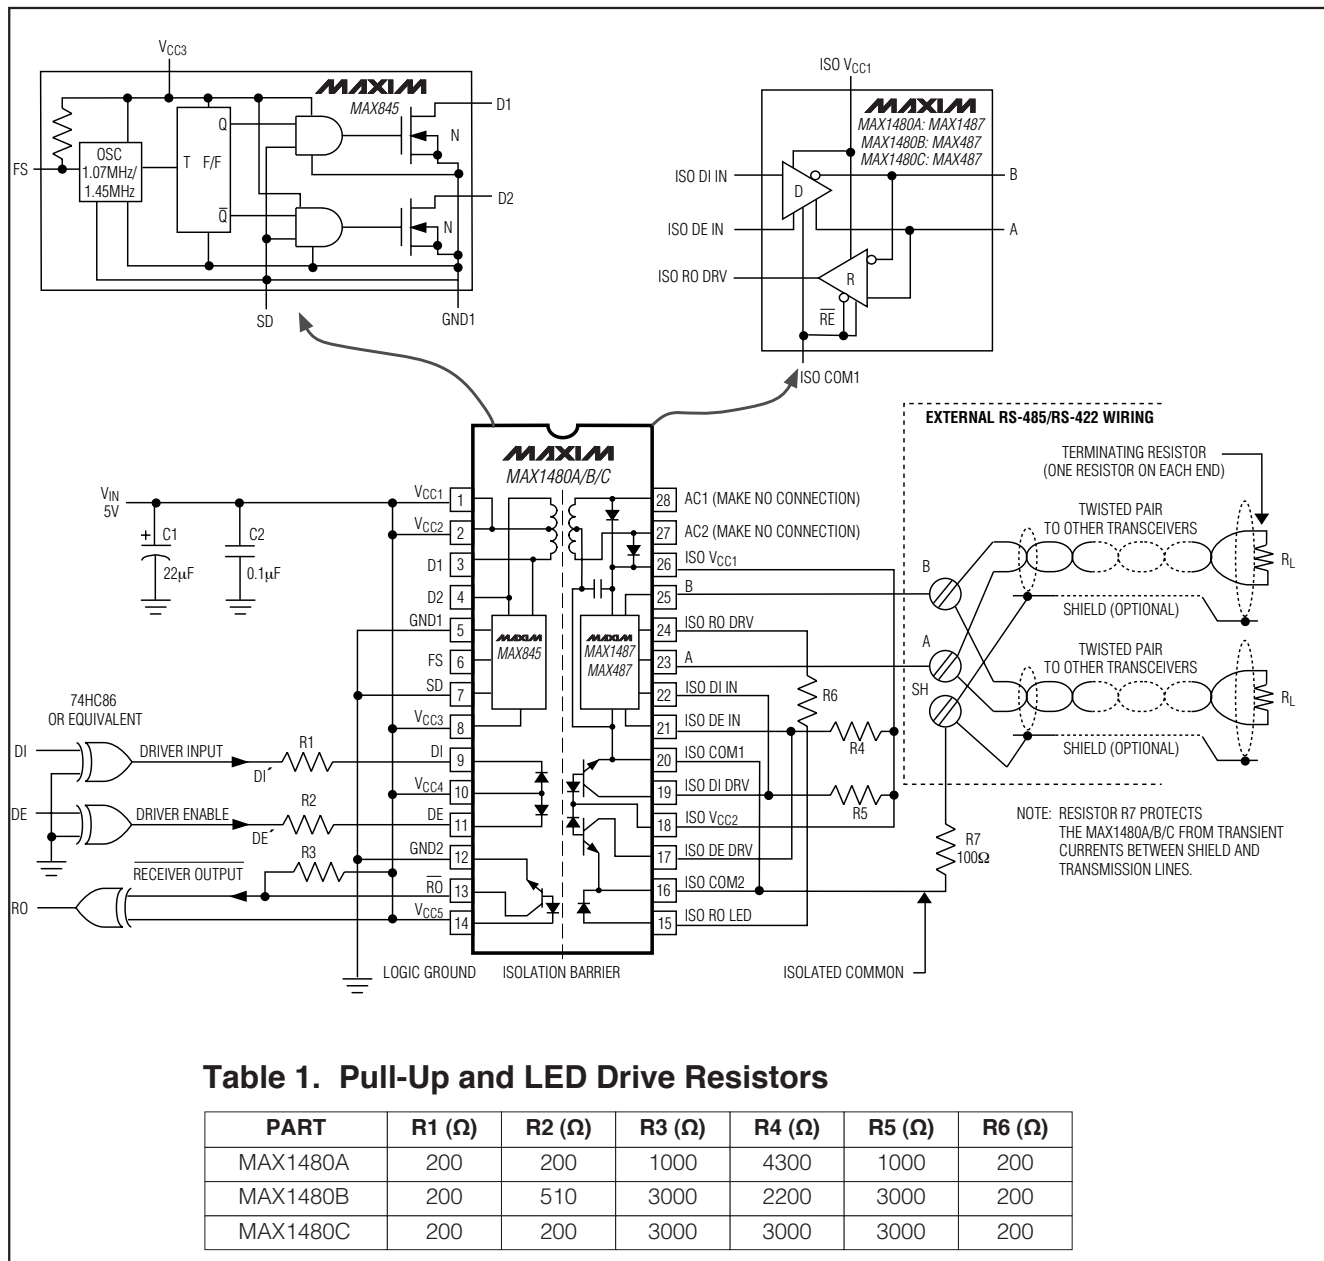
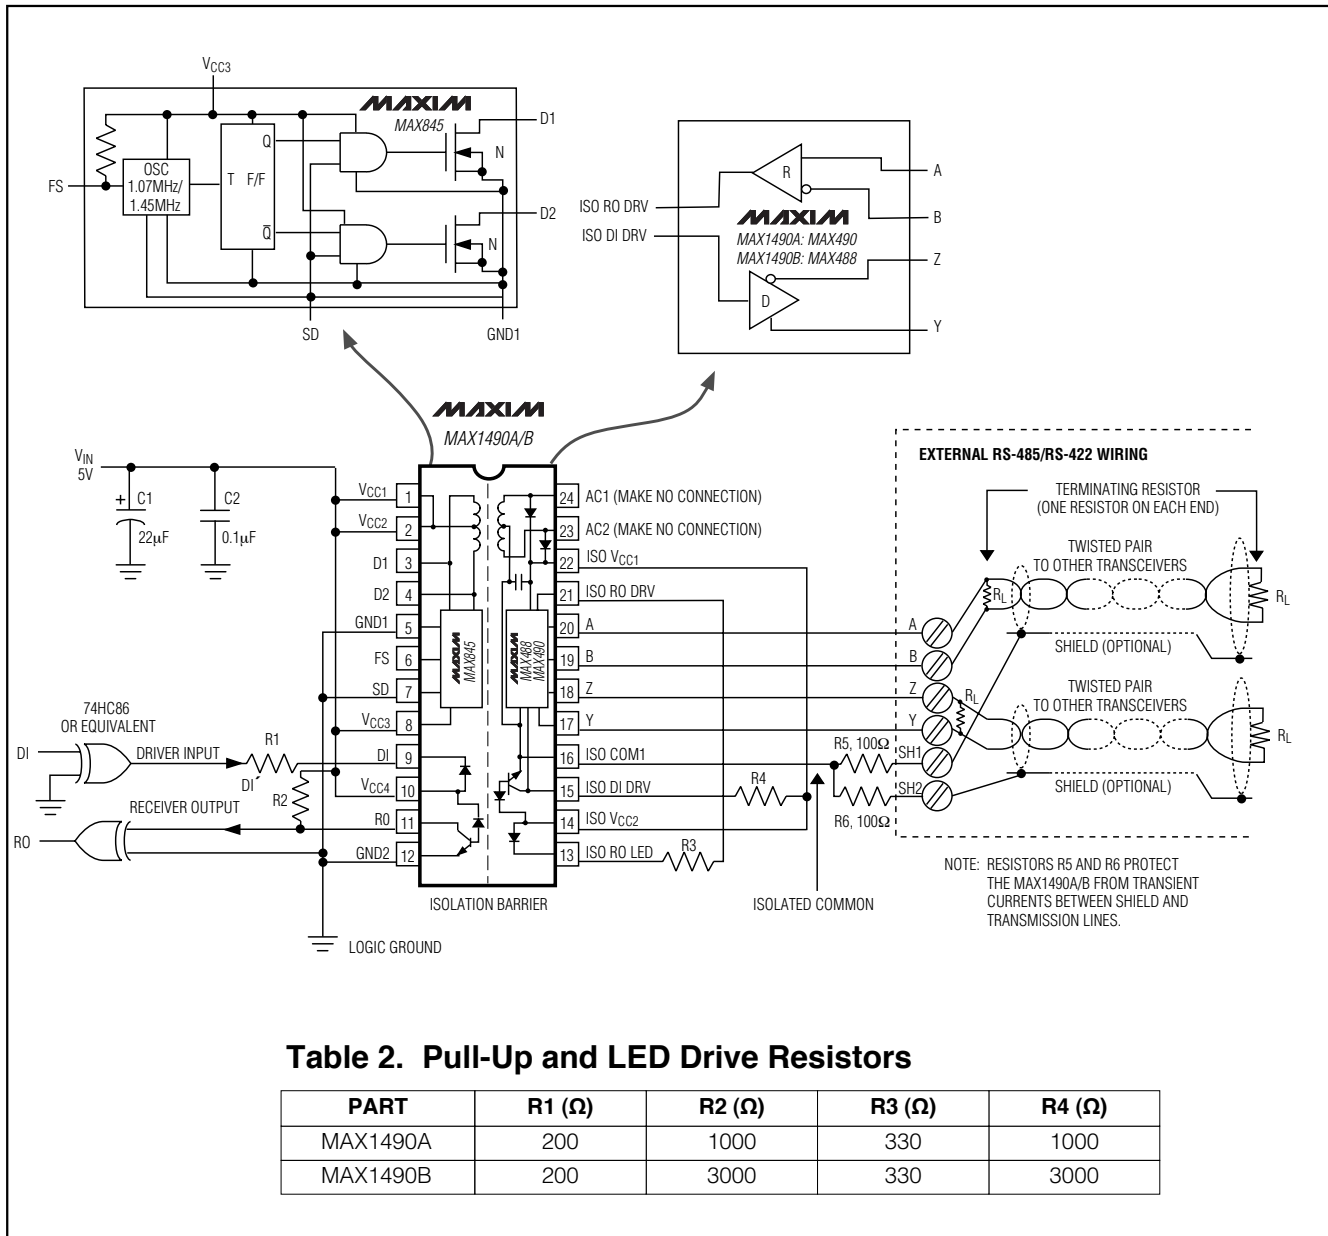

Figure 1. MAX1480A/MAX1480B/MAX1480C Detailed Block Diagram and Typical Application Circuit
Figure 2. MAX1490A/MAX1490B Detailed Block Diagram and Typical Application Circuit
Note: For DE⁺ and DI⁺ pin descriptions, see *Detailed Block Diagram and Typical Application Circuit* (Figure 1 for MAX1480A/B/C, Figure 2 for MAX1490A/B).
The MAX1480A/MAX1480B/MAX1480C/MAX1490A/MAX1490B are complete, electrically isolated, RS-485/RS-422 data-communications interface solutions. Transceivers, optocouplers, a power driver, and a transformer in one standard 28-pin DIP package (24-pin for the MAX1490A/B) provide a complete interface. Signals and power are internally transported across the isolation barrier (Figures 1, 2). Power is transferred from the logic side (nonisolated side) to the isolated side of the barrier through a center-tapped transformer. Signals cross the barrier through high-speed optocouplers. A single +5V supply on the logic side powers both sides of the interface. The MAX1480A/B/C offer half-duplex communications while the MAX1490A/B feature full-duplex communication. The functional input/output relationships are shown in Tables 3–6.
* For DE¹ and DI¹ pin descriptions, see *Detailed Block Diagram and Typical Application Circuit* (Figure 1 for MAX1480A/B/C, Figure 2 for MAX1490A/B).
The MAX1480A/MAX1480B/MAX1480C/MAX1490A/MAX1490B are specified and characterized using the resistor values shown in Table 1 of Figure 1 and Table 2 of Figure 2. Altering the recommended values can degrade performance.
The isolated common may be completely floating with respect to the logic ground and the effective network ground. The receiver input resistors will cause the isolated common voltage to go to the mean voltage of the receiver inputs. If using shielded cable, connect the isolated common to the shield through a 100Ω resistor. In the case of the MAX1490, each shield should have its own 100Ω resistor (Figures 1, 2, 13, and 14).